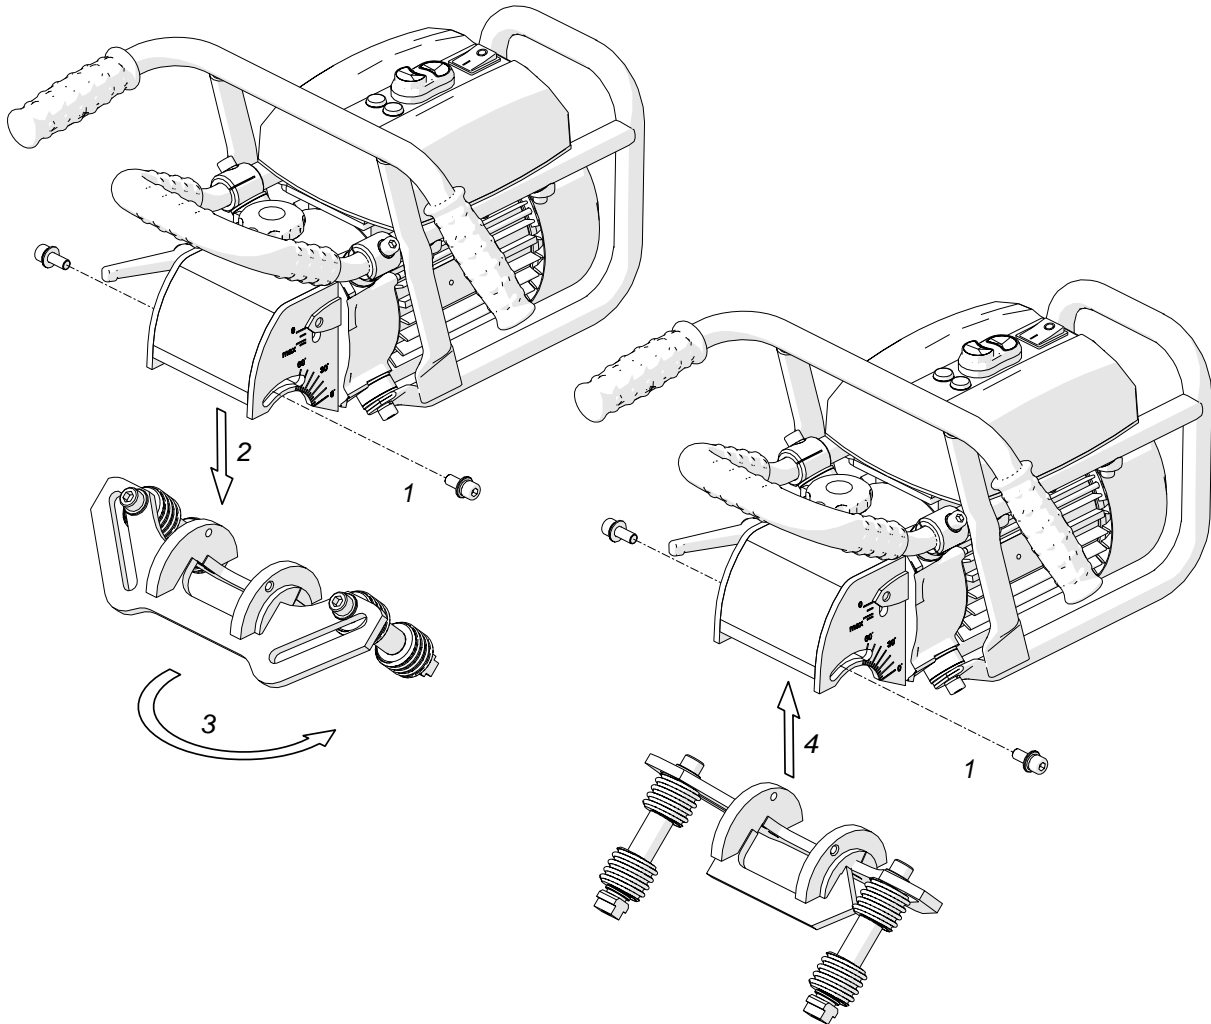
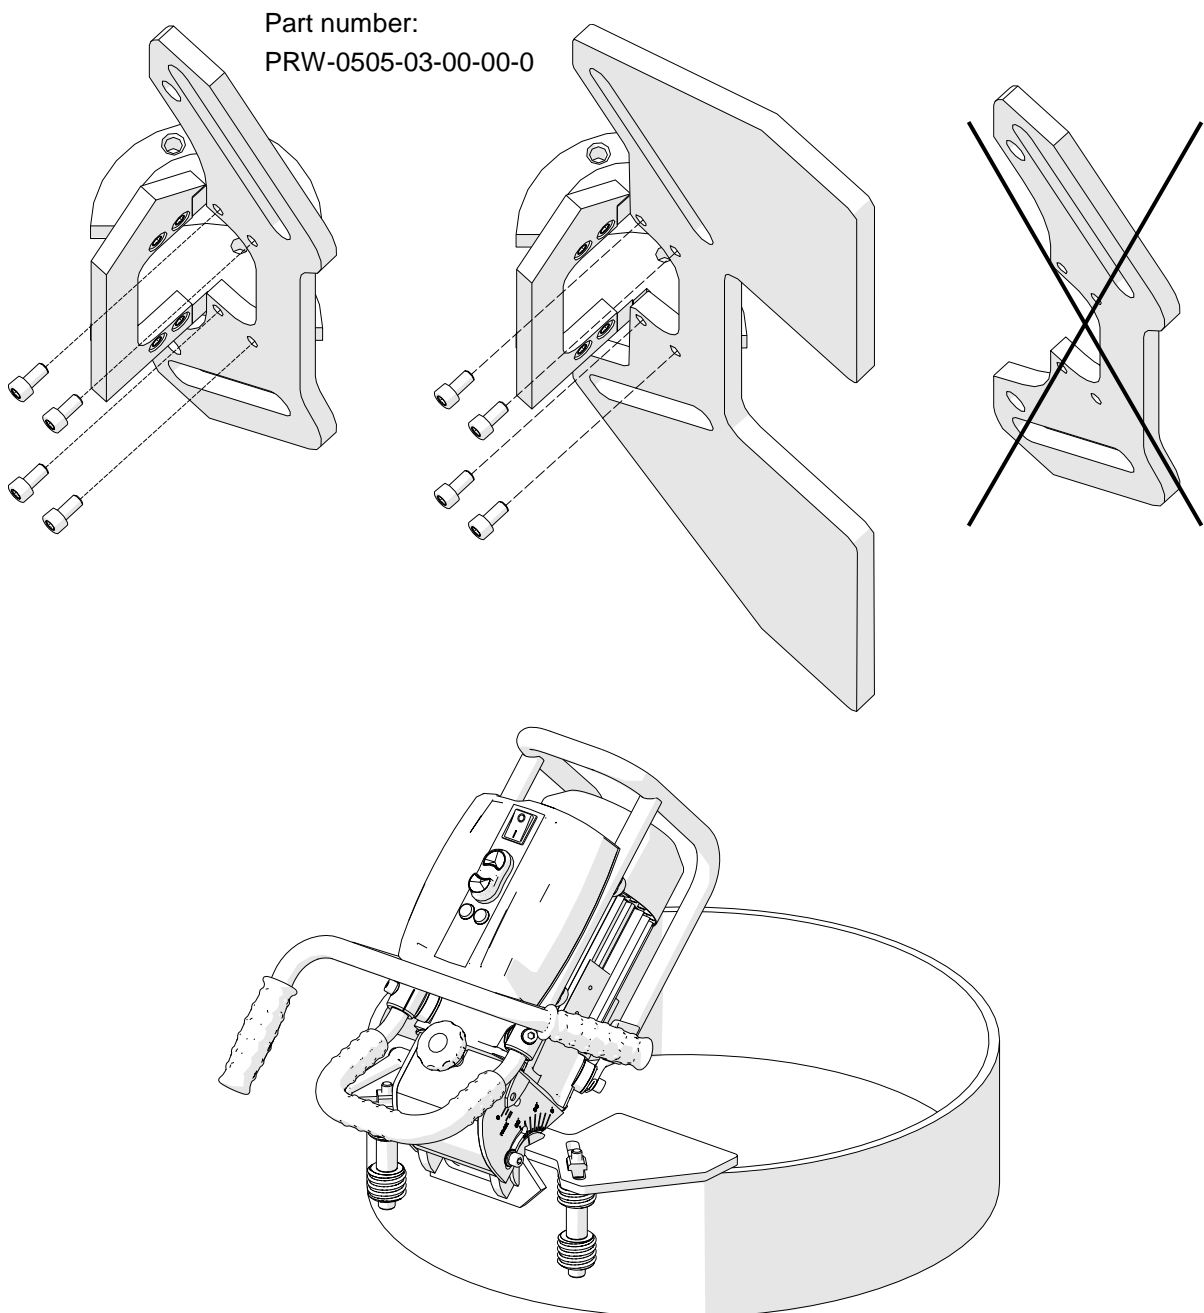

Fig. 6. Rotating and mounting the guide set
Fig. 10. Machine prepared for work on pipes with diameters 300–600 mm
To bevel pipes with diameters of 150–300 mm (6–12”), use the standard guide set after assembling it in a different way. To do this, use the 6 mm hex wrench to unscrew two side screws (1, Fig. 6), then remove the guide set (2), rotate it by 180° around the vertical axis (3), mount again (4), and secure with the screws (1).
To bevel pipes with diameters of 300–600 mm (10–24”), assemble the guide set using an optional guide. To do this, remove the guide set (1, 2, Fig. 6), use the 4 mm hex wrench to unscrew the standard guide, and assemble the guide for 300–600 mm pipes (Fig. 10), tightening with the screws. Mount the rollers and adjust the required bevel angle and width as described before.